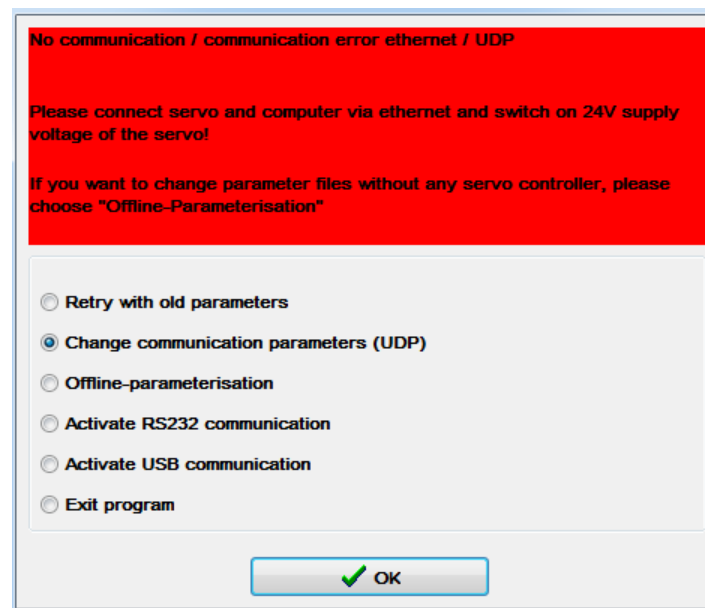

Figure 8-3: Selection window after the loss or termination of the UDP connection
3. Then, the window in Figure 8-3 opens. Select the option **Change communication parameters (UDP)** and click OK to confirm.
5. If the settings are correct, the Metronix ServoCommander[®] connects itself with the servo drive. In the event of an error, the selection window in Figure 8-3 opens. The configuration can be repeated until a connection to the servo drive is established.